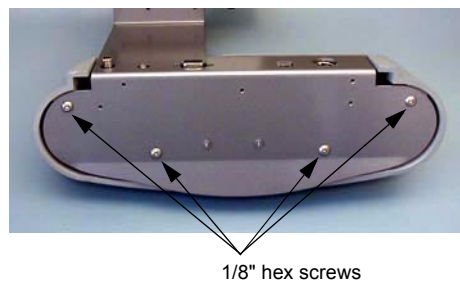

Figure 7.21 Cradle Assembly Bottom
- 2 Remove the four (4) 1/8" hex screws from the bottom of the cradle assembly, (Figure 7.21) and lift off the top cover.